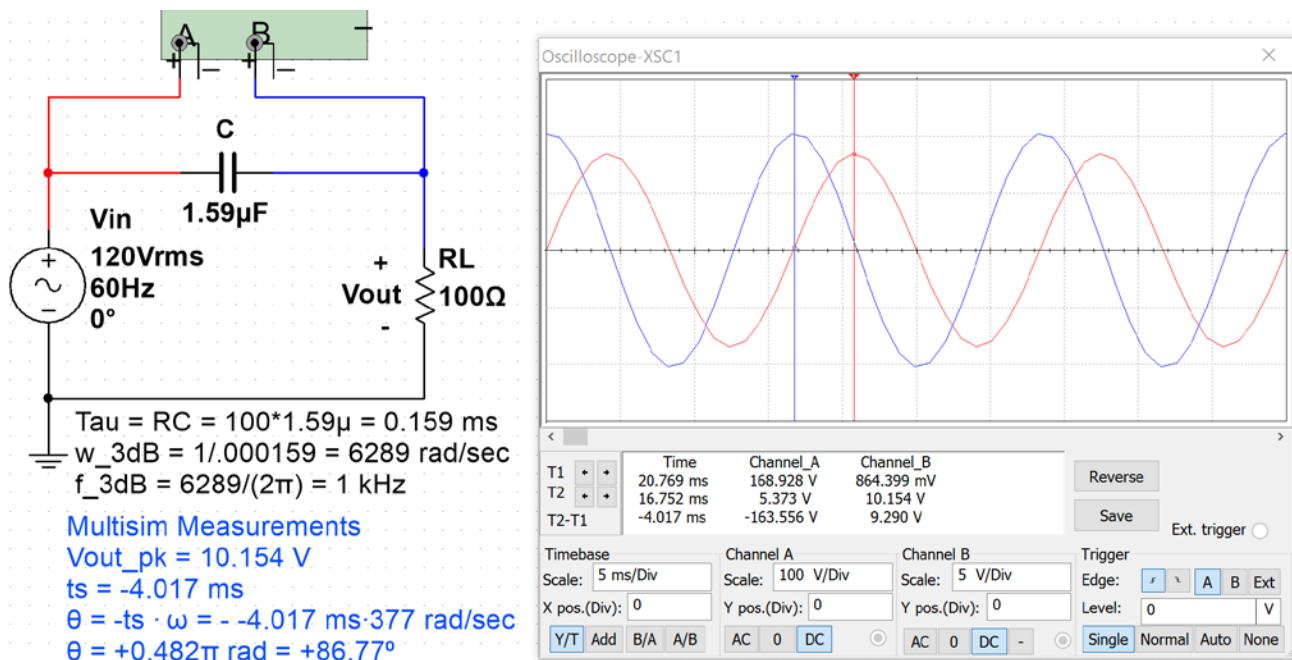

Figure 4.10: Multisim oscilloscope verification of Bode plot and calculated results of Example 4.2.
Using the Bode plot to determine the output signal is much easier than solving the problem algebraically. The following steps show how to solve this problem and the values are verified in the Multisim scope plot in Figure 4.10. The problem solving technique shown below is the same process that was performed in Section 3.2 - Series RLC Circuits. The Blue Font shows the Multisim measurements. Notice that they closely match the calculations.
- $Z_{Total} = RL - jX_C = 100 - j1668.3$ $Z_{Total} = 1671.3 \angle -86.57^\circ \Omega$ (ICE) (Notice: V_{RL} leads V_{in} in Figure 4.10)